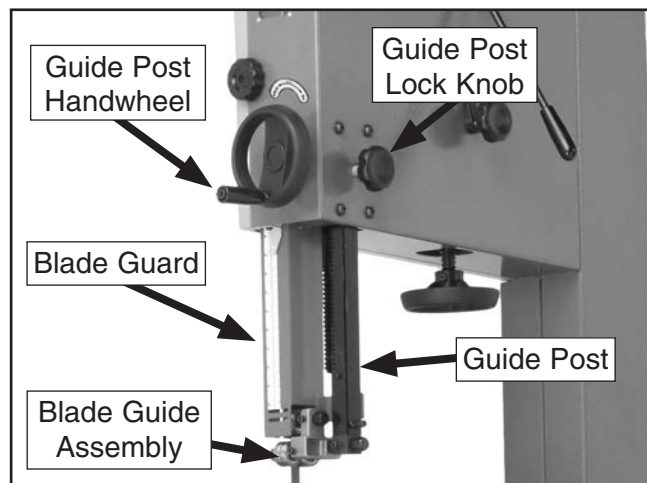

Figure 66. Guide post controls.
3. Loosen the guide post lock knob shown in **Figure 66**.